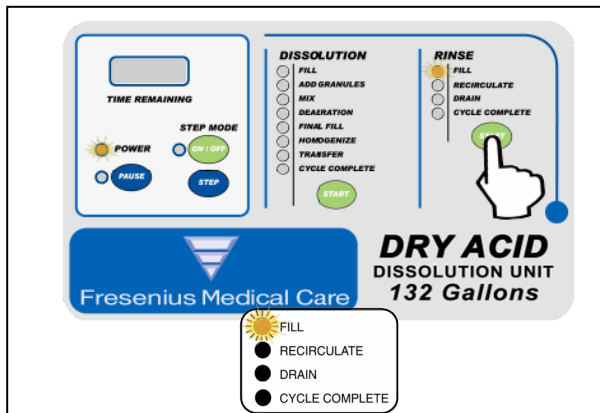

Figure 2
2. The RINSE CYCLE consists of two complete RINSE Operations. Press the Rinse side START button. The Fill Indication Light will illuminate indicating the RINSE CYCLE has started and the Dry Acid Dissolution Unit is in FILL Operation (Figure 2). Verify tank is filling and the water level stops at the 25-Gallon Sensor. Lift the Access Lid and look into the tank to verify that the tank is filling.